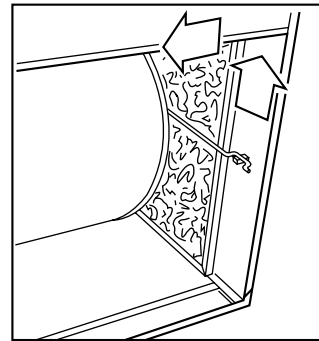

Fig. 28 - Removing Filter Retainer from Latch
- (1.) Remove filter retainer from latch. (See Fig. 28.)